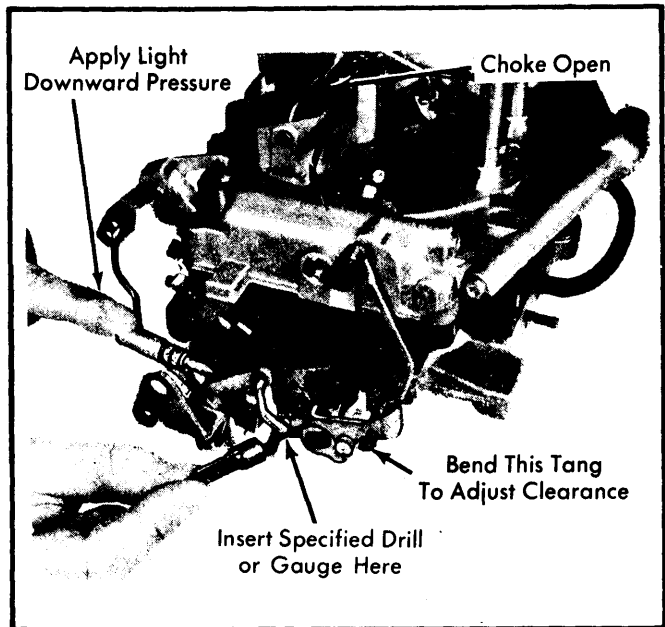

Fig. 11 Adjusting Secondary Throttle Lockout
- 1) Move fast idle control lever to wide open choke position. Measure specified clearance between lockout lever and stop. Clearance can be checked using a specified drill or pin gauge. See Fig. 11.